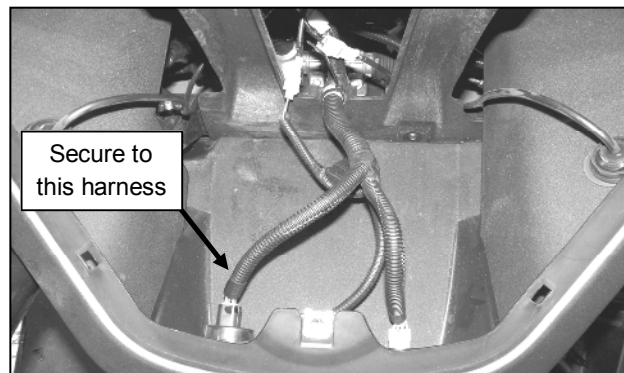

Fig. 4.5 (Controller Zip Tie)
- 4.5** Zip tie the controller (located in the alternator kit) to wire harness for vehicle ignition or vehicle frame shown in figure 4.5